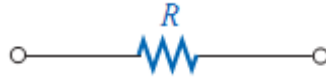

Figure 10 Resistance symbol and notation
The flow of charge through any material encounters an opposing force similar in many respects to mechanical friction. This opposition, due to the collisions between electrons and between electrons and other atoms in the material, *which converts electrical energy into another form of energy such as heat, is called the **resistance** of the material.* The unit of measurement of resistance is the ohm, for which the symbol is Ω , the capital Greek letter omega. The circuit symbol for resistance appears in Fig. 10 with the graphic abbreviation for resistance (R).